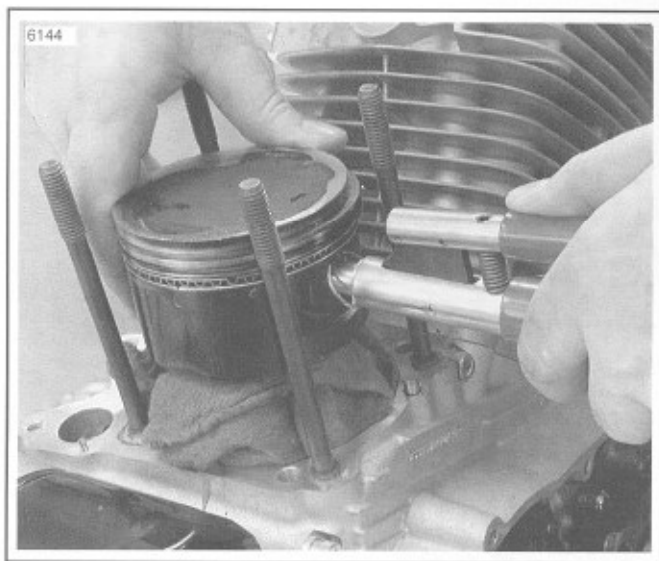

Figure 3-37. Installing Piston Retaining Rings
- See Figure 3-37. Install new piston pin retaining rings with the PISTON PIN RETAINING RING INSTALLER (Part No. HD-34623A). Make sure the ring groove is clean and that the ring is fully seated in the groove with the gap away from the slot at the bottom.